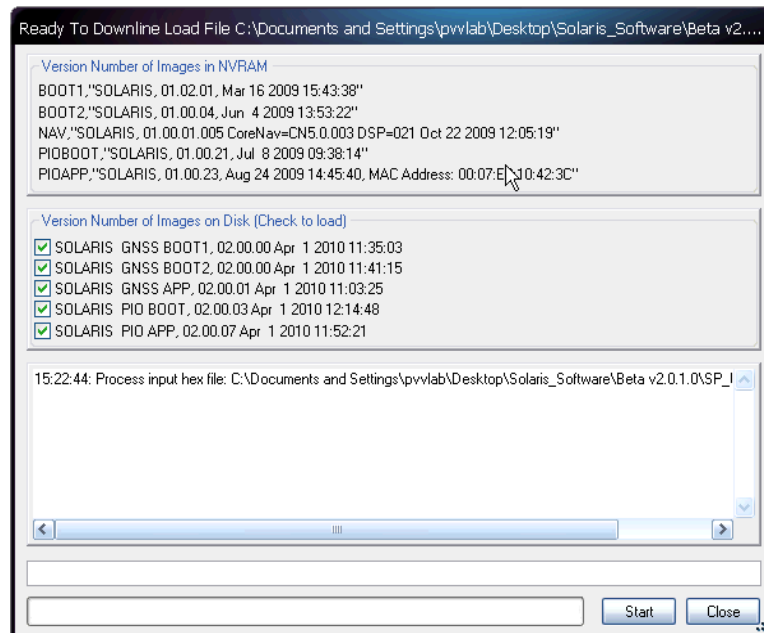

Figure 12: Ready to Downline Load File
6. The files to be uploaded are displayed on the *Ready to Downline Load File* dialog box with their corresponding check boxes selected (see Figure 12).